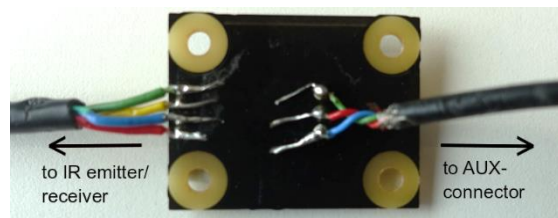

Figure 18: Ground plate of IR sensor after soldering cables to IR emitter/receiver and to the AUX-connector
6. If the ground place now looks similar to Figure 18, place the plate between the sensorbox, lid (2.12) and the sensorbox, base (2.13) and fix them together using two M2x10mm (3.06) screws.